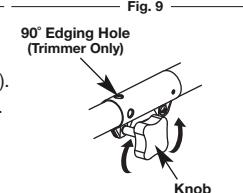

Fig. 10
1. Turn the knob counterclockwise to loosen (Fig. 10).
1. Turn knob counterclockwise to loosen (Fig. 10).
3. Turn the knob clockwise to tighten (Fig. 10).
For decorative trimming/edging with the line cutting head, lock the release button into the 90° hole (Fig. 10).